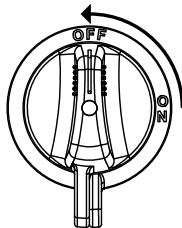

Figure 14. Battery Switch (OFF)
5. Place the **Battery switch** (Figure 14) in the **OFF** position.